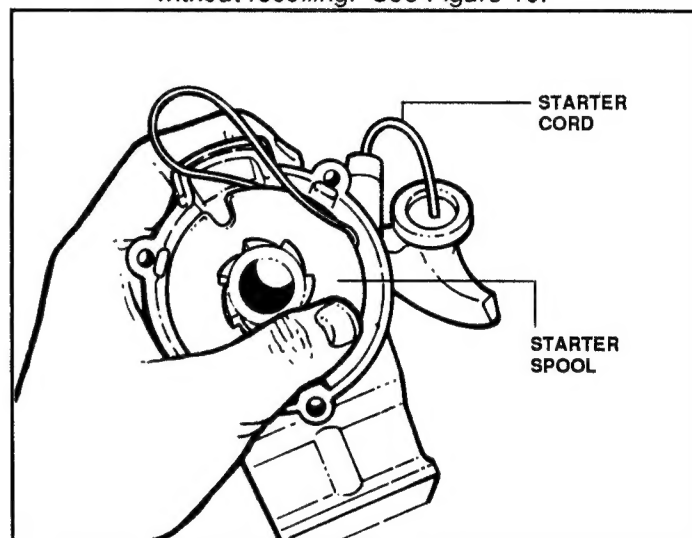

FIGURE 10
5. Because the two starters operate the same, only one type (the plastic starter) will be depicted to demonstrate drum, rope and spring replacement. To replace starter components, first pull a section of cord out from the spool and release coil tension. The rope should then dangle without recoiling. See Figure 10.